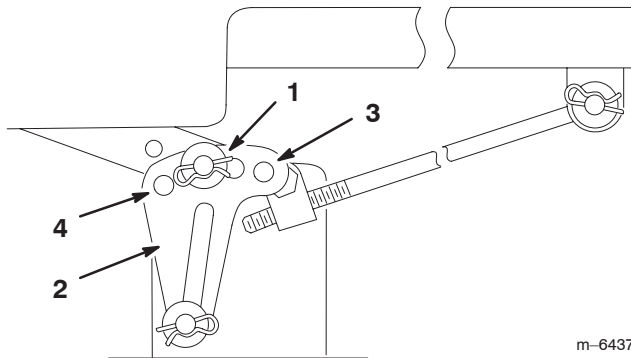

Figure 38
6. Remove the hairpin cotter and washer from the leveling bracket (Fig. 38).
7. To level the blade(s), reposition the leveling bracket(s) in a different hole and install the washer and hairpin cotter. (Fig. 38 and 39). A front hole lowers the blade height and a rear hole raises its height. Adjust both sides as required.